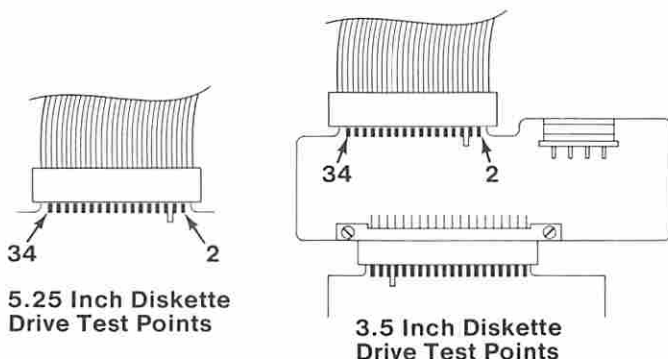

Figure 18. Voltage Check
- Power on the system and monitor the voltage at pin 30 on each diskette drive circuit board during the POST (Figure 18 on page 0600-25).